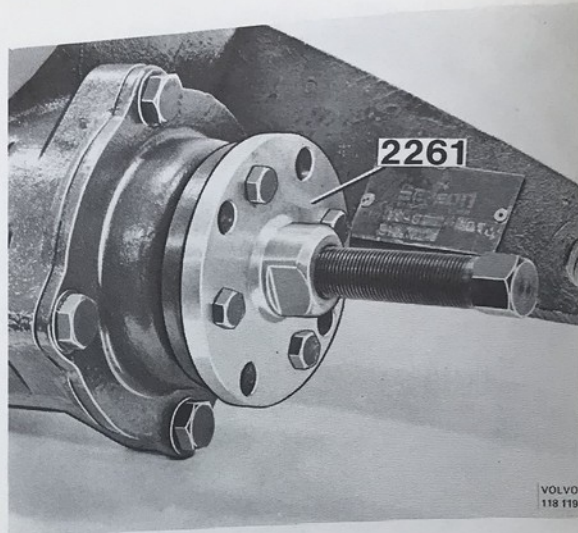

Fig. 92-54. Removing the flange
15. Remove the bolt holding the flange in position. Pull off the flange with 2261, see Fig. 92-54.